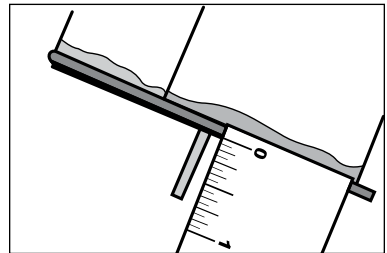

Figure 10
- 3) Remove the brass rod from the rotor top. Push the long end of the brass rod through the center holes of the rotor blades. The blade farthest from the drive gear should be $\frac{3}{4}$ " from the end of the rod (Figure 10).